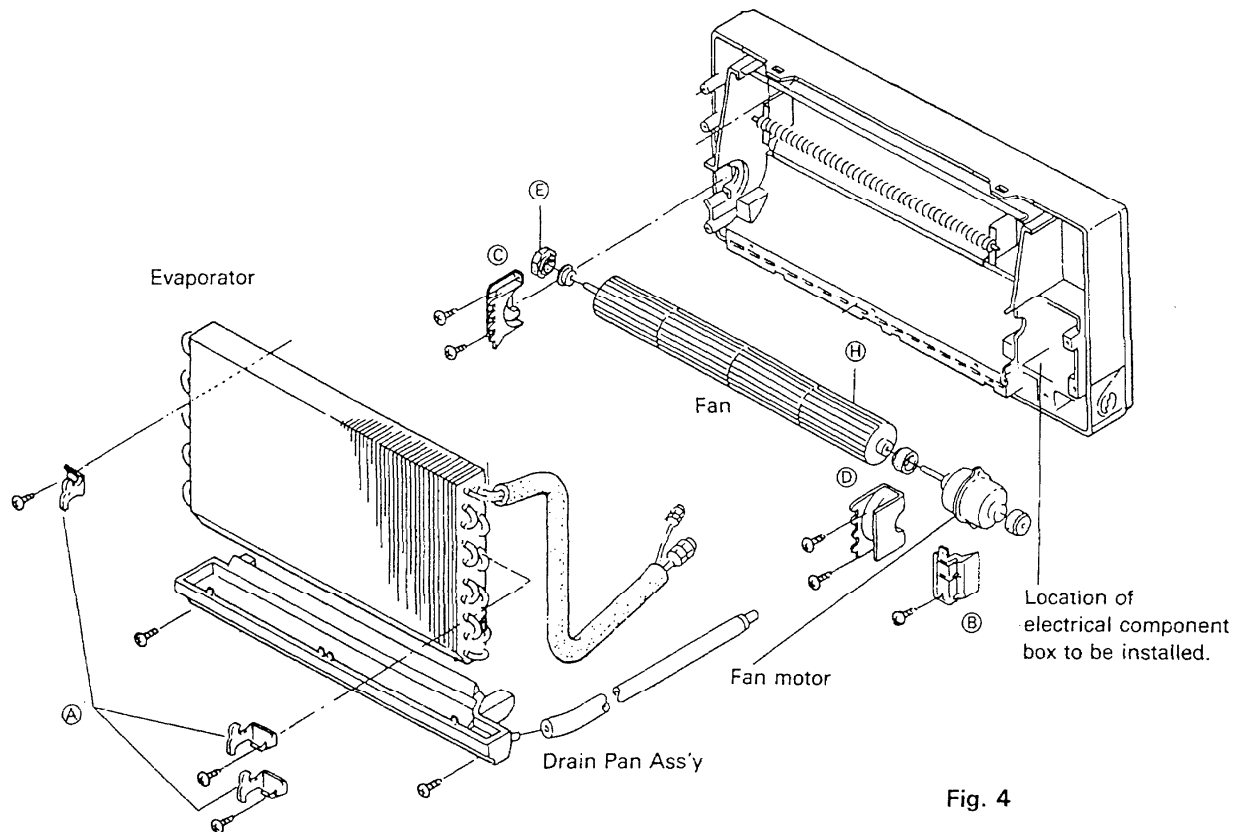

Fig. 4
- 1) As shown in Fig. 4 loosen the screws of the plastic mounting plates (C) and (D) which secure the fan, using a Phillips screwdriver, then remove the fan and fan motor.
- 2) When withdrawing the fan from the motor, first loosen the fan fixing bolts using a hexagonal key (H).
- 3) Withdraw the Bearing Ass'y (E) retaining the left side of the fan, by hand, then pull the fan to the left and withdraw it from the motor shaft.